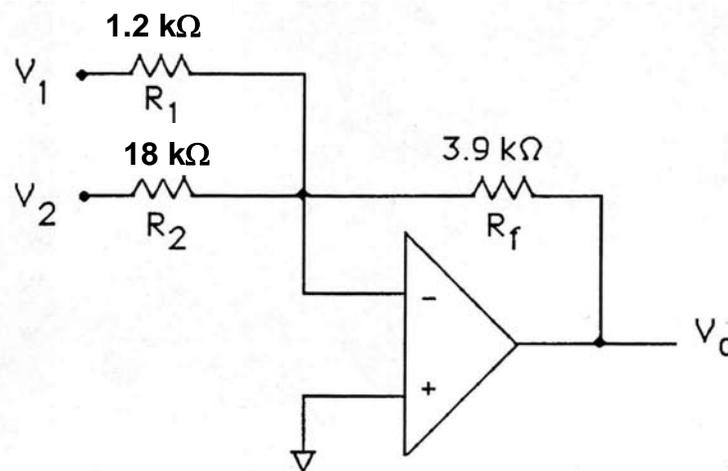

Figure 9.7: Inverting amplifier circuit 9.5.3 with multiple inputs.
9.5.3 Inverting Amplifier with Multiple Inputs - Circuit 9.5.3. Assemble the circuit shown in Figure 9.7. Use the function generator to supply a 0.4 V peak-to-peak 1 kHz,
From Figure 9.7, we get that